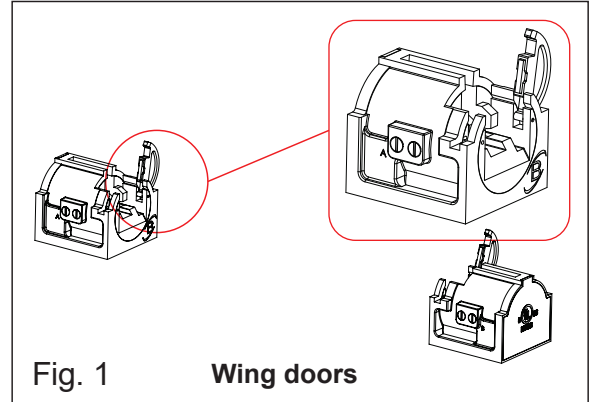

Fig. 1 Wing doors
1. Open both wing doors on top of sockets to install the lamp (Fig. 1).